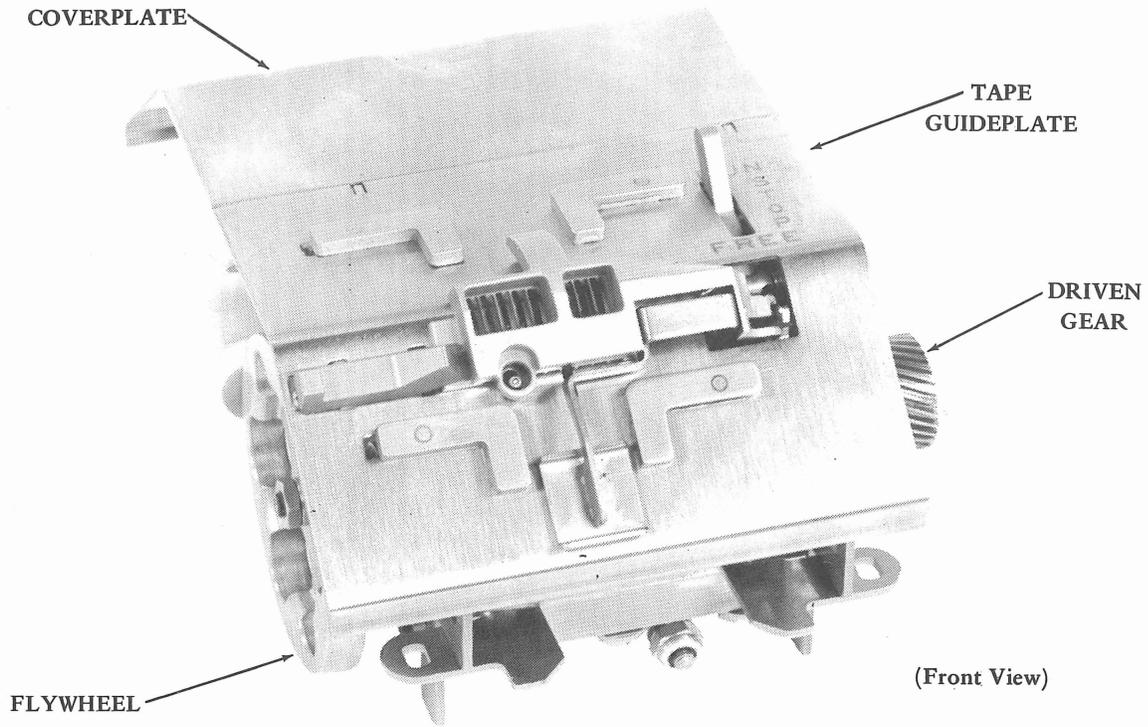

Figure 1 - High Speed Tape Reader (CX)
1.01 This section provides installation information for the high speed tape reader set (Figure 1) consisting of a base, reader, gear set, motor unit, and cover. Refer to Section 570-220-702 for motor unit installation information.